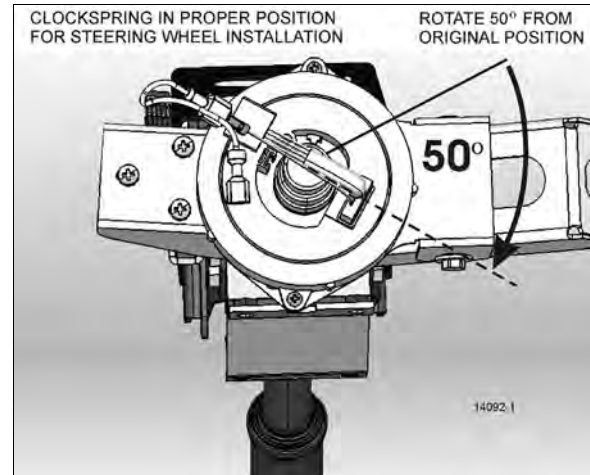

FIGURE 14: PROPER CLOCKSPRING POSITION
5. Break the paper seal and rotate the center part of the clockspring about 50° clockwise (Figure 14). This step is necessary for the installation of the steering wheel.